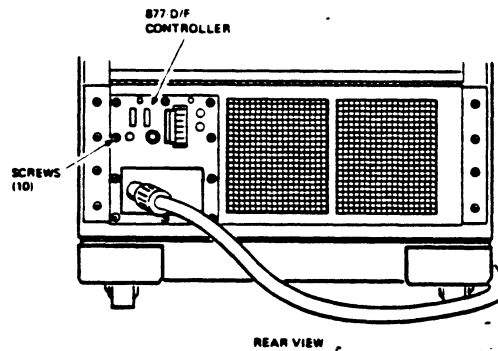

FIGURE 5-27 POWER CONTROLLER REMOVAL - REAR VIEW
7. Loosen the 10 phillips head screws securing the power controller to the cabinet bulkhead. See Figure 5-27.